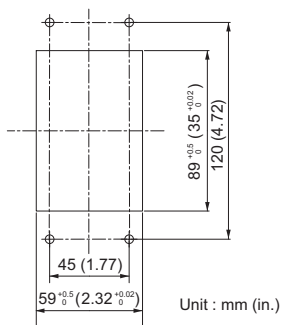

Figure 13 Panel Cut-out Dimensions (Internal/Flush-mount Installation)
1. Cut an opening in the enclosure panel for the option according to *Figure 13*.